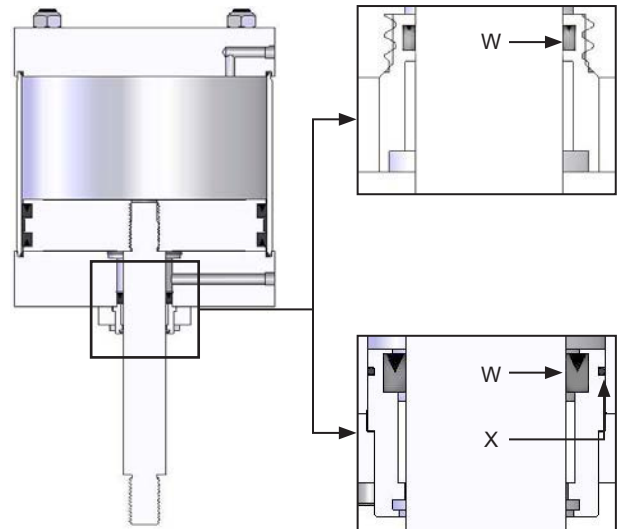

Figure 33. Close-up view with all Seals in place
- b) Using a clean, lint-free cloth, apply a thin layer of STP® brand lubricant to BEARING ASSEMBLY (V), and o-ring grease to U-CUP ROD SEAL (W) and O-RING ROD SEAL (X).
- c) Ensure orientation of seals are correct as pictured in figure 33. Reassemble U-CUP ROD SEAL (W), O-RING ROD SEAL (X), BEARING ASSEMBLY (V), GLAND PLATE (U), and GLAND SCREWS (T).